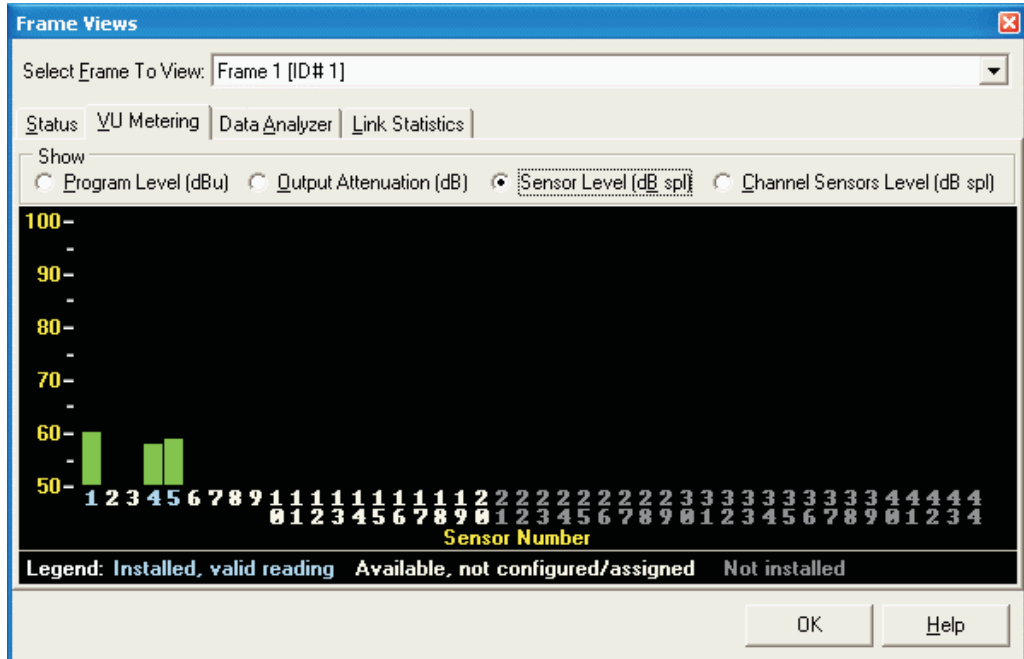

Figure 44 - Frame views 4
- **Sensor Level** is the individual sensor's ambient noise level. Refer to Figure 44. Default meter levels (no measured signal) are: